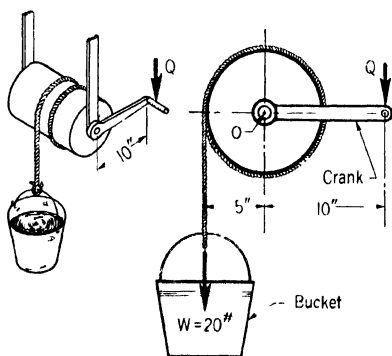

FIG. 383. LEVERAGE OF A WINCH, PROBLEM 3
3. A simple winch is composed of a cylinder, around which a rope winds, and a crank which the operator uses for turning the cylinder (Fig. 383). Winches are frequently found at water wells. A bucket of water, the total weight of which is $W = 20$ lb., is lifted by a winch (Fig. 383) in which the operator applies a force Q at a distance of 10 in. from the axis O of the winch. Find the value of Q when friction is neglected.